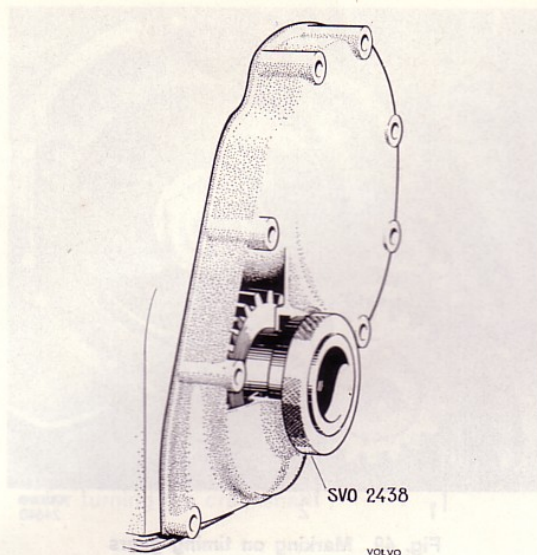

Fig. 43 Centering the timing gear casing
6. Center the casing with sleeve SVO 2438, see Fig. 43. Turn the sleeve while tightening and adjust the position of the casing so that the sleeve is not jammed. Check after final tightening of the casing that the sleeve can be easily rotated without jamming.